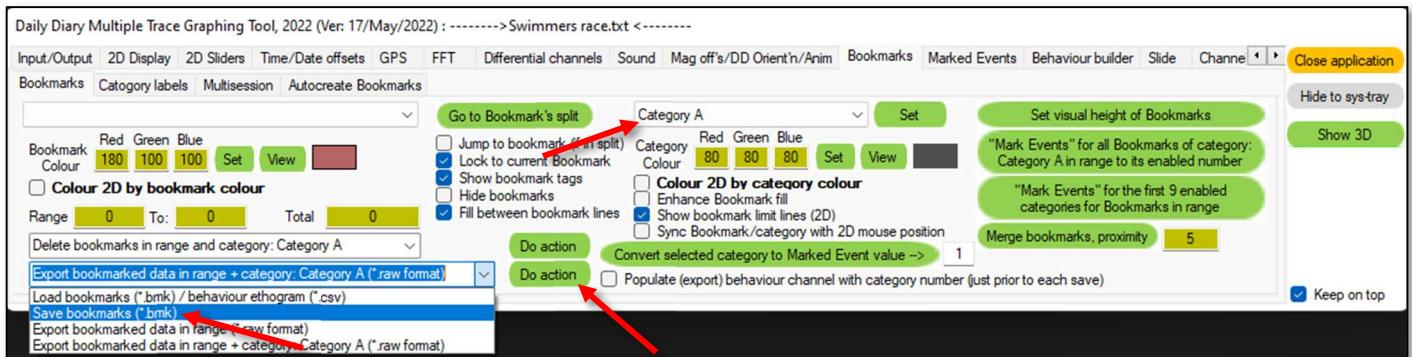

Figure 6.5 Saving and loading .bmk files
**Export bookmarks in range (raw)** exports all the data from bookmark X to bookmark Y, where X and Y are the values in the two textboxes above this button, as a single .raw file that can be reloaded into DDMT. Note that the bookmark markers will be maintained, showing the separate sections of data. **Export in range and category (raw)** exports all bookmarked data that matches the category selected in the drop down menu (as indicated in Figure 6.5).